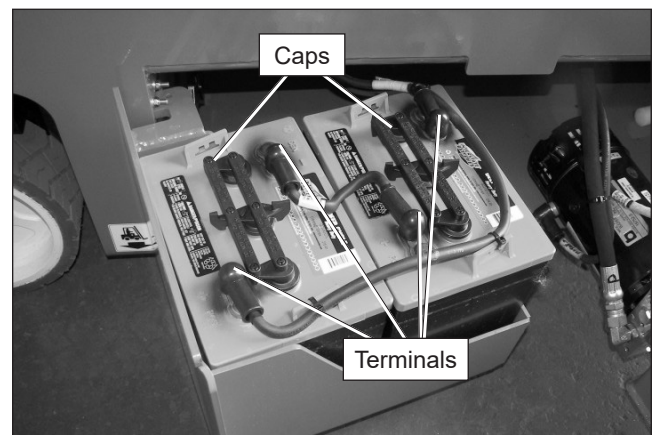

Figure 8.2 – Battery Tray
1. Remove the caps from the batteries (refer to Figure 8.2).
1. Check the top of the battery, the terminals, and cable ends (refer to Figure 8.2). They should be clean and free of corrosion.